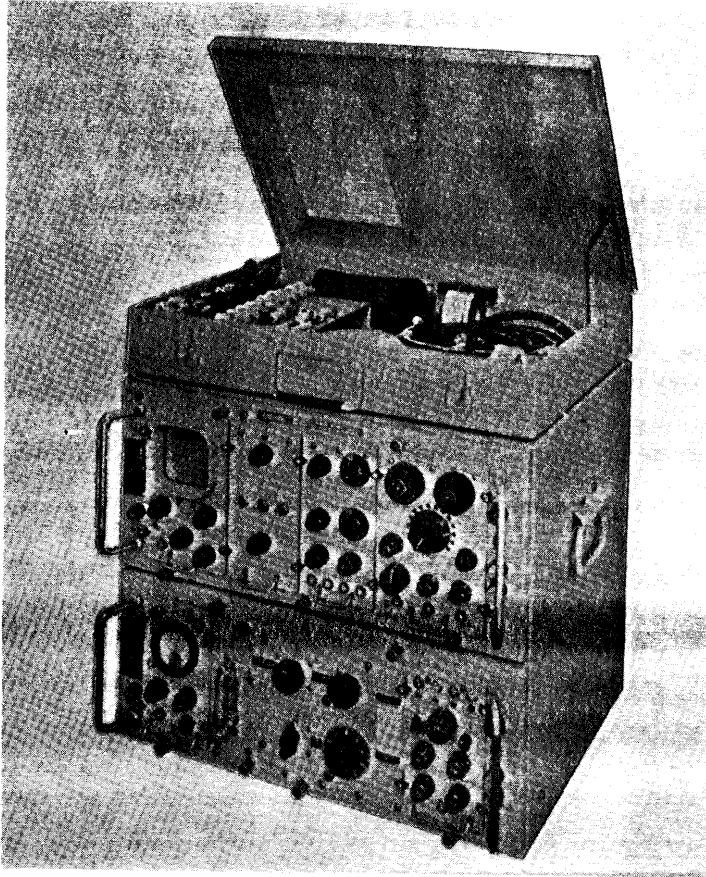

Figure 1-1. Radar Test Set AN/UPM-98A Overall Equipment View
b. PHYSICAL CHARACTERISTICS. Figure 1-1 shows both Radar Test Sets AN/UPM-98A and AN/UPM-98B. Both are transportable test sets for use with secondary radar equipments and consist of two separately nomenclature drawer assemblies mounted in a common electrical equipment case. The detailed nomenclatures and accessory items applicable to each Radar Test Set are listed in table 1-1.